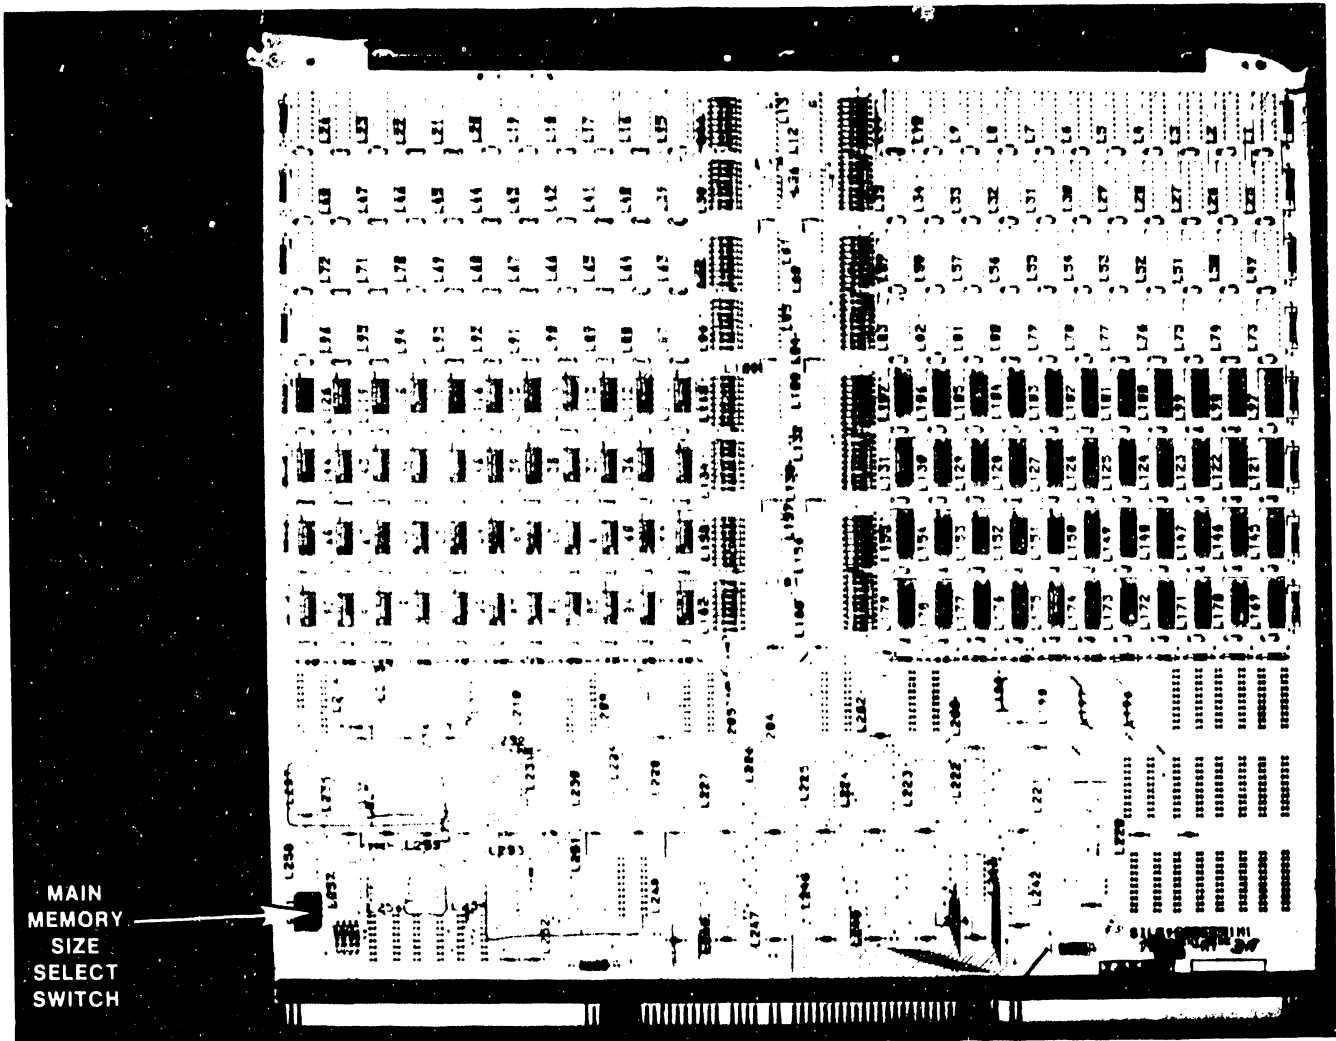

Figure 5-4. 210-7900 Main Memory Board
5. Remove the Main Memory board (figure 5-4) from Motherboard slot #1 by lifting the snaplocks to free the board from the Motherboard connectors. Once the board is free of the connectors, ease it straight up in the board guides and out of the board cage.